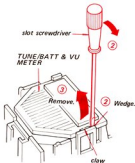

Fig. 2-14.
- ① Remove rear cabinet ass'y and chassis with electrical and mechanical parts mounted, as outlined in 2-1 and 2-2 on pages 5 and 6.
- ② Release main chassis claw by wedging with a slot screwdriver as shown in Fig. 2-14.
- ③ Remove TUNE/BATT & VU METER in the direction shown by the arrow.